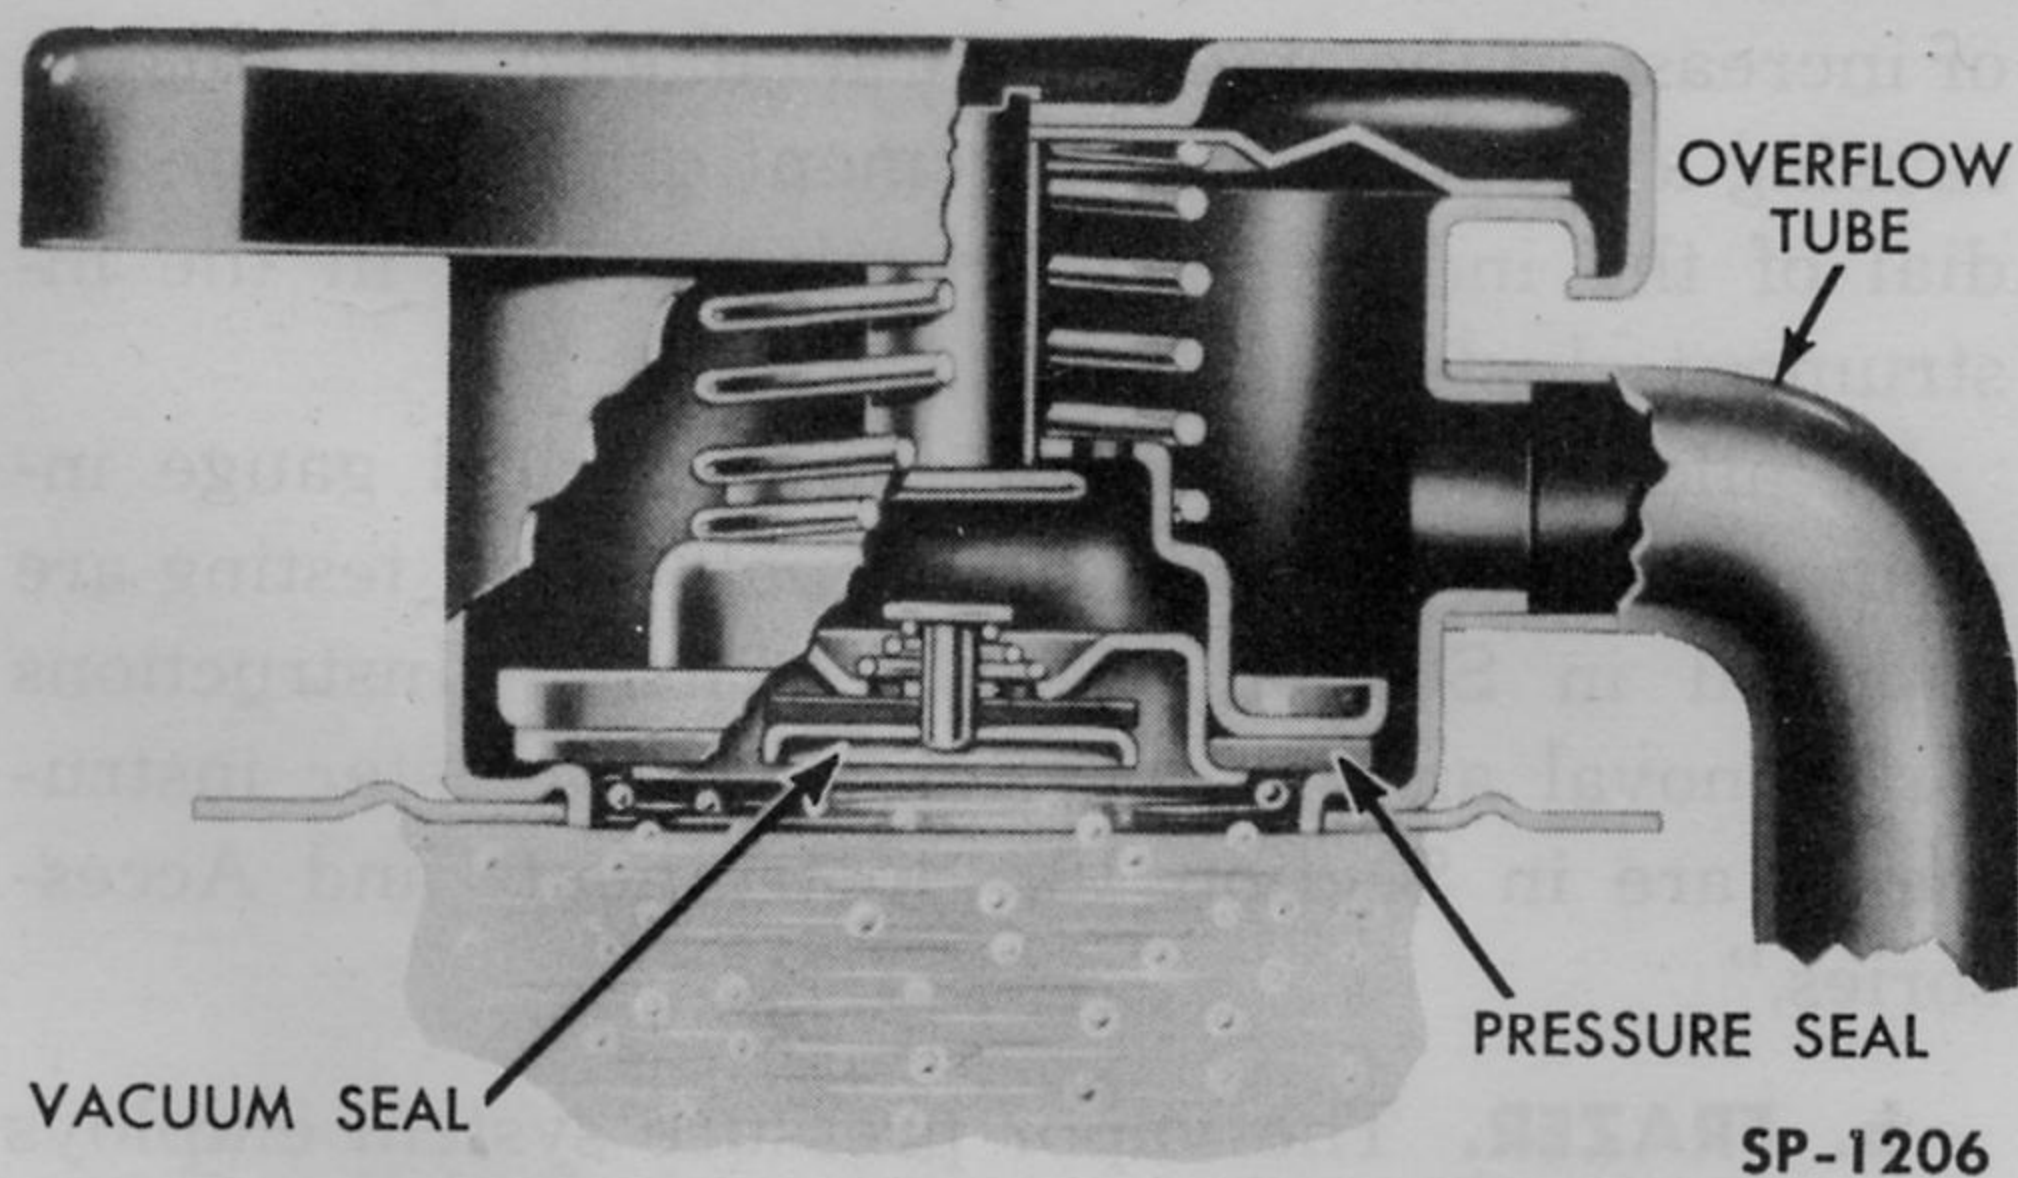

Fig. 156—Radiator Pressure Cap
**b. PRESSURE CAP.** The combined radiator filler cap and pressure cap (Fig. 156) permits pressure to build up within the cooling system to the factory setting of 3¼ to 4¼ psi before the pressure seal is lifted to permit steam, expanding liquid or air to escape through the overflow tube.
A vacuum release valve in the cap (Fig. 156) opens when the cooling of the radiator would otherwise cause a partial vacuum.